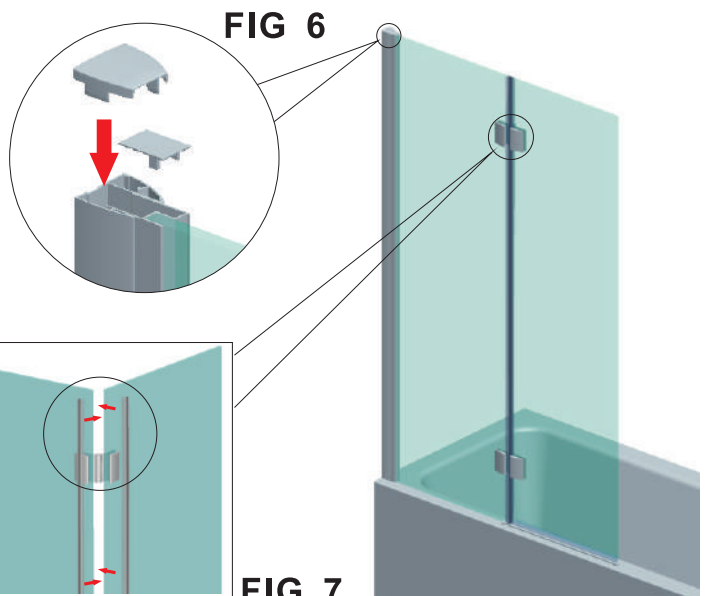

FIG 6
6. Fix the top cover cap (B08062B) to upright profile and top cover cap (B08060B) to wall profile (M7003B). **Fig 6.**